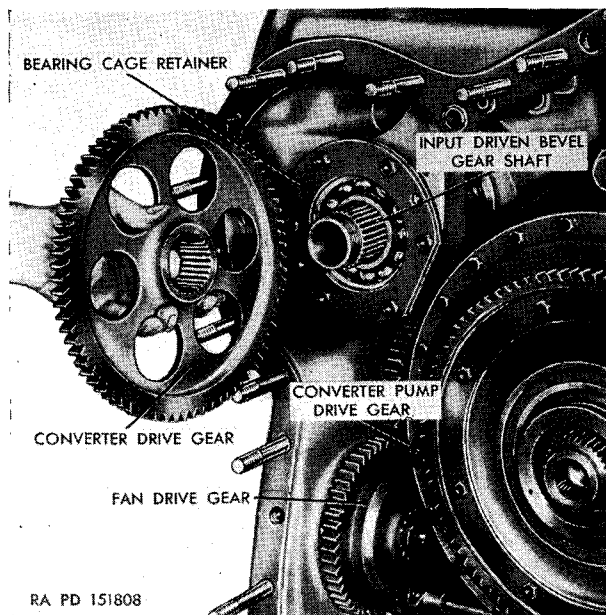

Figure 69. Removing or installing converter drive gear.
- (3) Lift the converter drive gear off the input-driven-bevel gear shaft (fig. 69).